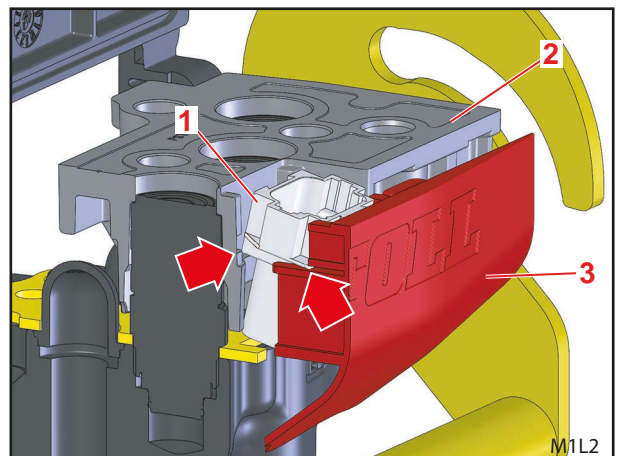

Fig. 18 Installing the Hydro-Fix lower part – Electric plug connector and cover
- (6) Slide the Hydro-Fix lower part on the valve (not all the way down).
- (7) Set the electric plug connector at a slight angle so that it slides into the guides and support plates (see arrows in Fig. 18) when you put the cover and the Hydro-Fix upper part together.
- (8) Slide the cover on completely, and at the same time, gently press down on the Hydro-Fix lower part.
- (9) Secure the Hydro-Fix lower part with the 5 screws M8x45.